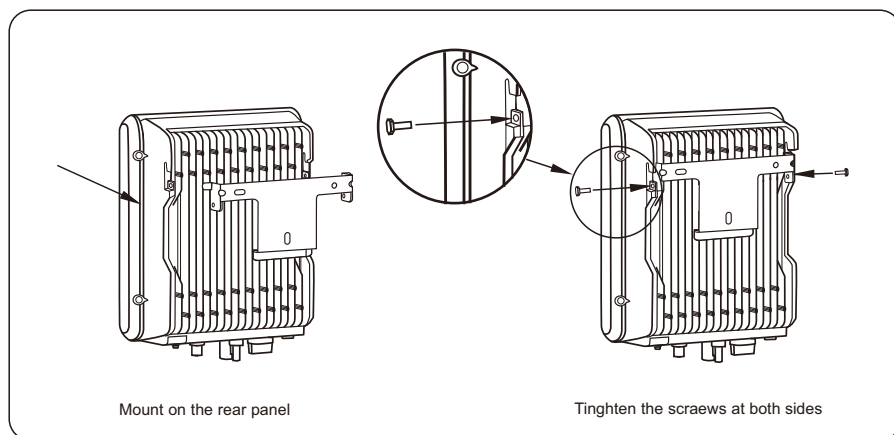

Figure 4.14 Securing the inverter
Step 2 Mount the inverter on the rear panel and keep them aligned with each other, as shown in Figure 4.14.
Step 3 Tighten the two hexagon screws at the both sides of the inverter to a torque of $1.2\text{N}\cdot\text{m}$ and $3\text{N}\cdot\text{m}$ respectively. Screw specs for 1K-3.6K and 3K-6K are M4 and M6 respectively, as shown in Figure 4.14.